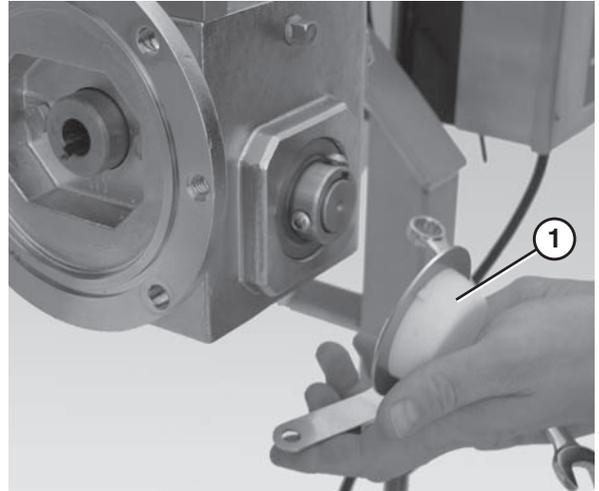

Figure 63
8. Remove the drive spindle cover (**Figure 63, item 1**).